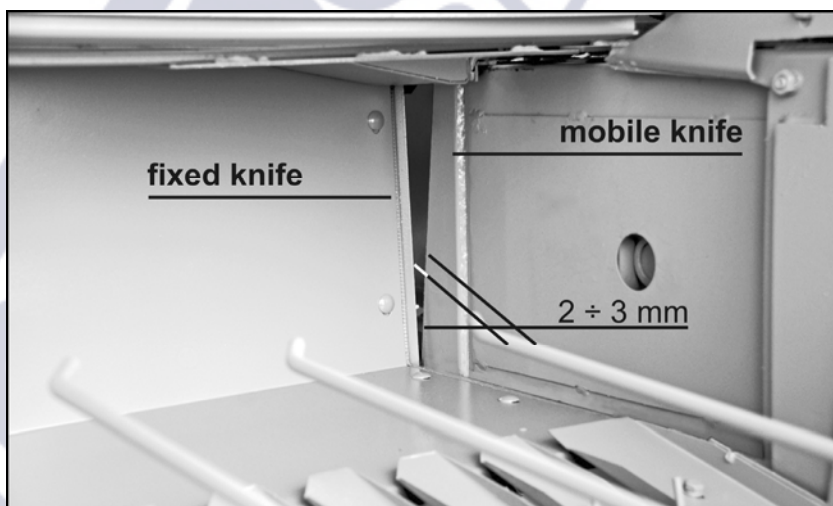

Fig. 8
1. Incorrect knife adjustment (Fig. 8) or bad condition of their cutting edge.